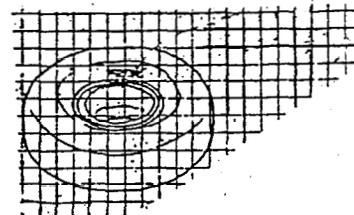

Fig. 9
- 8) Using soapy water, check for any leakage of air. (Fig. 9)